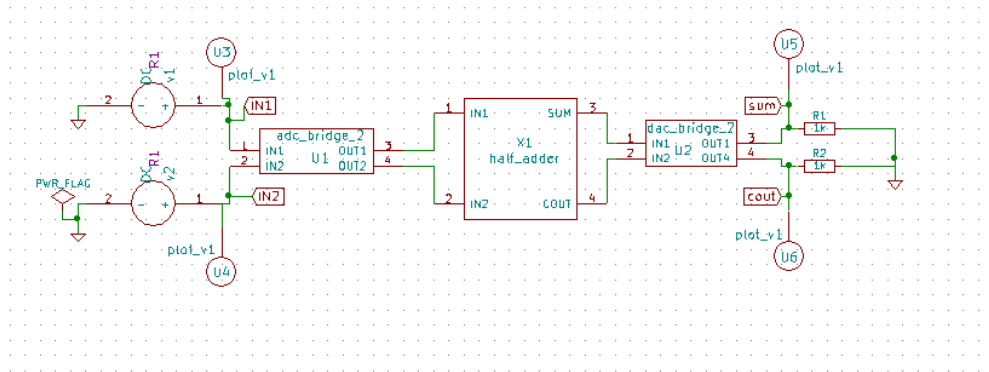

Figure 11.21: Schematic of Half Adder circuit
- **Creating Schematic:** To create the schematic, click the very first icon of the left toolbar as shown in the Fig. 11.2. This will open KiCad Eeschema. After the KiCad window is opened, to create a schematic we need to place the required components. Fig. 11.3 shows the icon on the right toolbar which opens the component library. After all the required components of the Half Adder circuit are placed, wiring is done using the Place Wire option as shown in the Fig. 11.4. Next step is ERC (Electric Rules Check). Fig. 11.5 shows the icon for ERC. The Fig. 11.21 shows the complete Half Adder schematic after removing the errors.